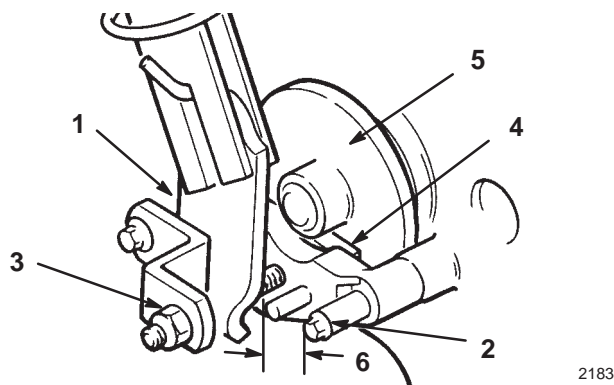

Figure 22
2. Measure the distance between the disc brake actuating arm and stop pin on the axle bracket assembly (Fig. 22). The distance should be less than 1/4 in. (6 mm).
3. If the distance is greater than 1/4 in. (6 mm), tighten the locknut to decrease the distance between the actuating arm and stop pin (Fig. 22).
4. With the brake lever OFF, check the clearance between the brake pads and disc with a feeler gauge (Fig. 22). Proper clearance is approximately 0.01 in. (.25 mm).